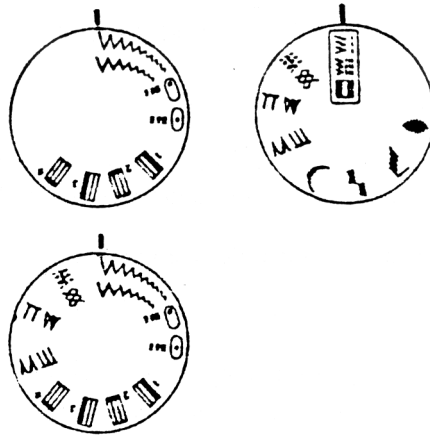

Fig. 3b
- Set stitch control knob to the widest zigzag stitch (fig. 3b).